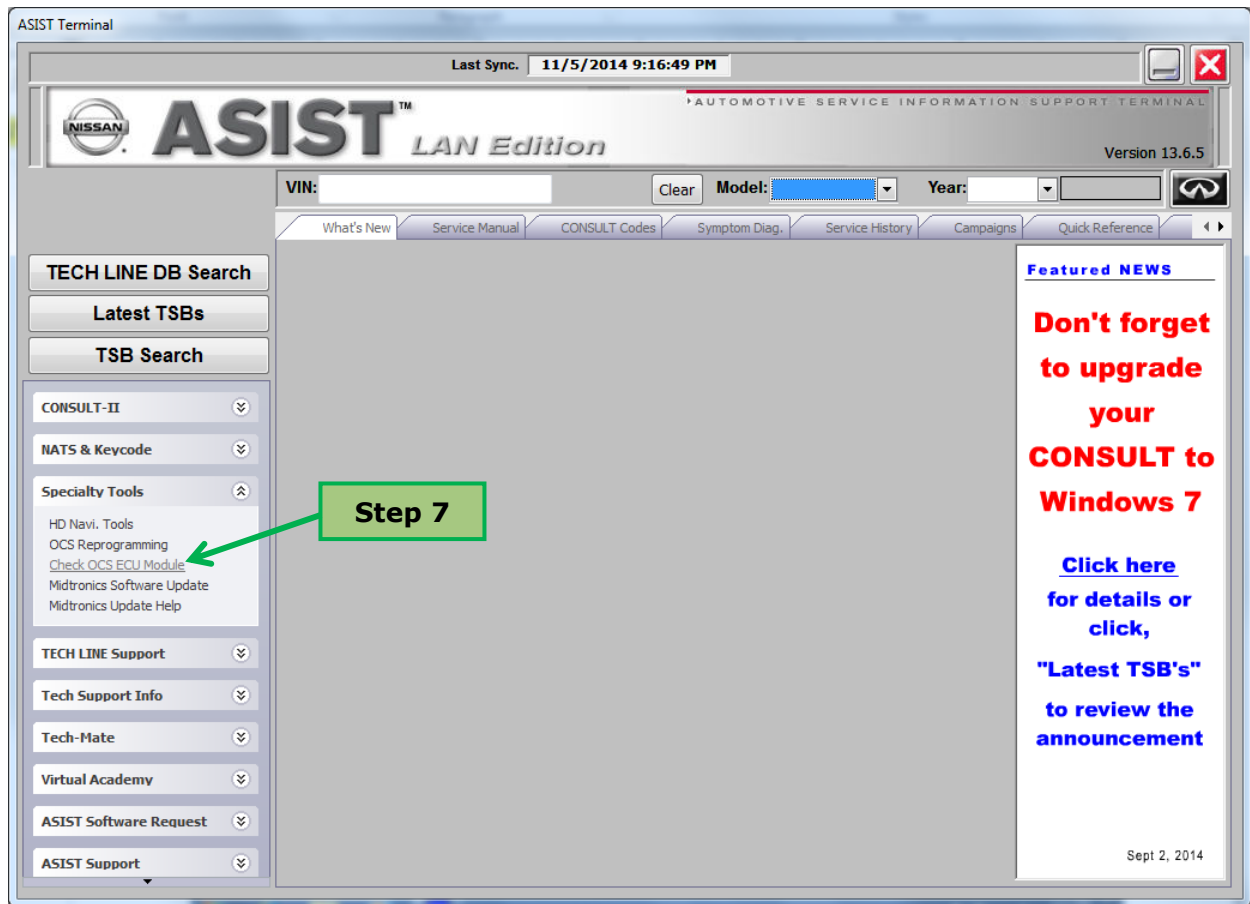

Figure 1
7. Select **Specialty Tools**, then **Check OCS ECU Module** (Figure 1).